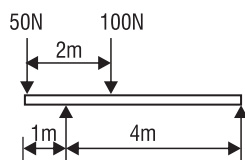
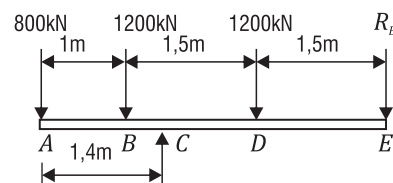

Figure 4.40
Figure 4.43
3. Draw the shearing force and bending moment diagrams for **Figure 4.40 – Figure 4.43**. Find the position and magnitude of the maximum bending moment in each case.